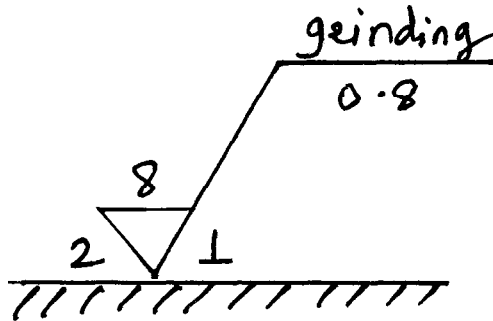

Fig. No. 1
- (iii) State the meaning of the symbol shown in Fig. No. 1.